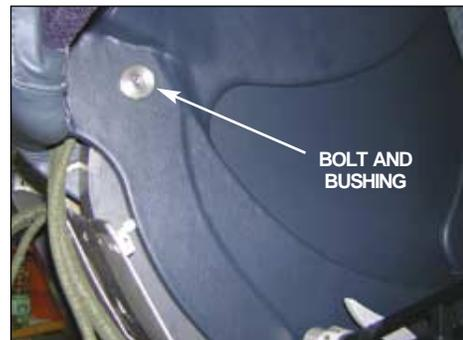

FIG. 302B:
- (5) Remove lateral bolt and bushing from both inner sides (see fig. 302B).